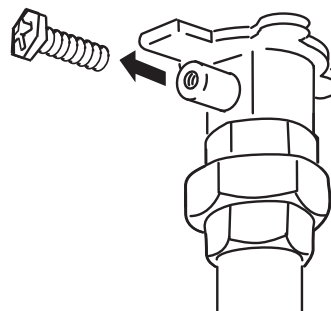

Fig. 4
- ▶ 2. Next, verify the supply pressure at the unit. To check the gas supply pressure to the unit, a tap is provided on the gas inlet (Fig. 4). Make sure the gas supply is turned off to the unit. Remove the hex head Philips screw from the tap. A 9/32" nut driver is recommended for the removal of this screw. If a nut driver is not available, a Philips screwdriver can be used. Gently remove the screw, so as not to strip out the screw.